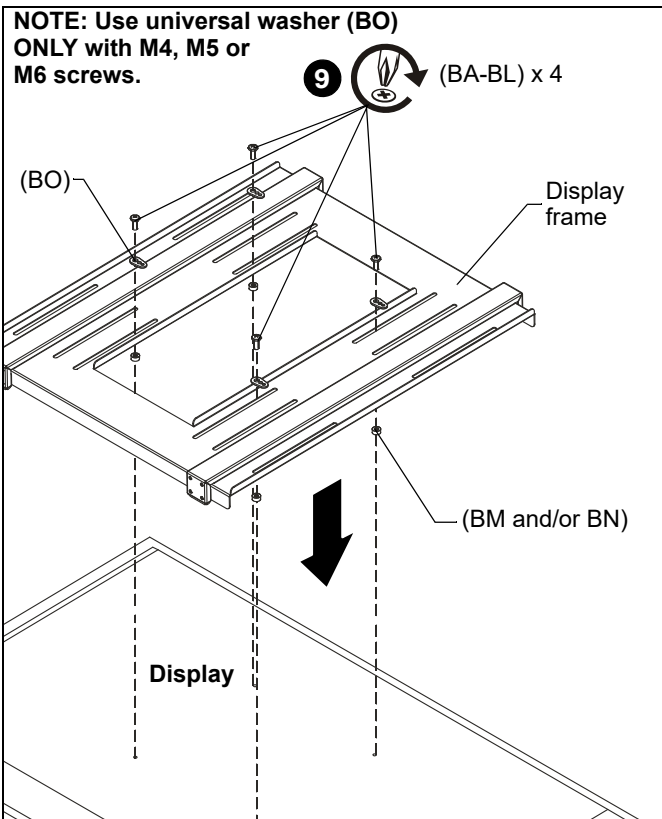

Figure 8
**IMPORTANT !** : The M8 screws do **NOT** require a washer. Use the universal washer (BO) **ONLY** with the M4, M5 or M6 screws.
- Place display frame onto back of flat panel and match the VESA pattern on flat panel to the display frame mounting slots. (See Figure 8)
- Use selected screws (BA-BL), washers (BO--if required), and spacers (BM, BN--if required), to connect display frame to back of flat panel. (See Figure 8)